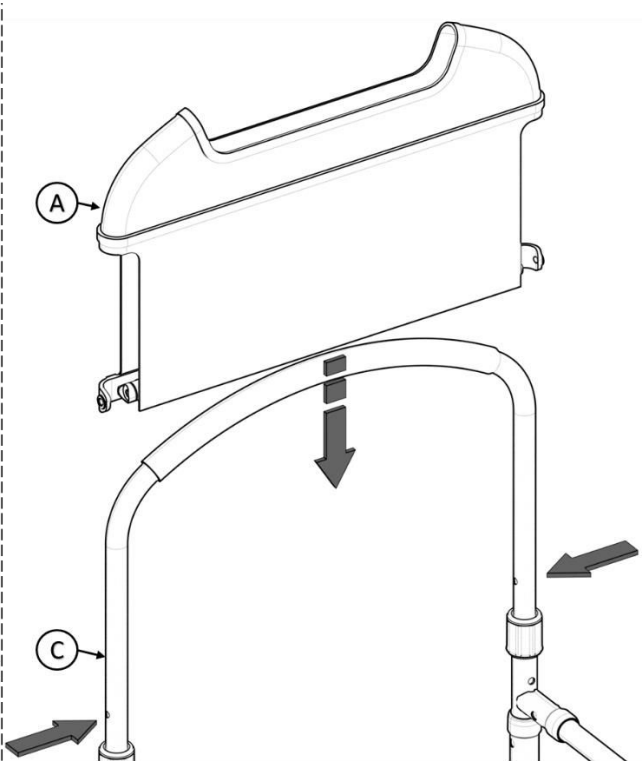

**FIGURE 2**
2. Connect Base Tubes together (**E** and **F**) as shown in *FIGURE 2*.